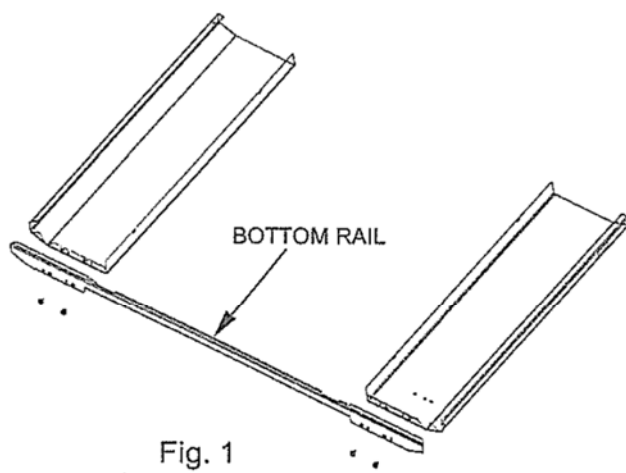

Fig. 1
2. Align the bottom flange of each side panel with the corresponding end of the bottom rail. Using the self-tapping screws provided, attach the bottom rail to the bottom flanges of the side panels. Tighten the screws only loosely at this stage. (see Fig.1)